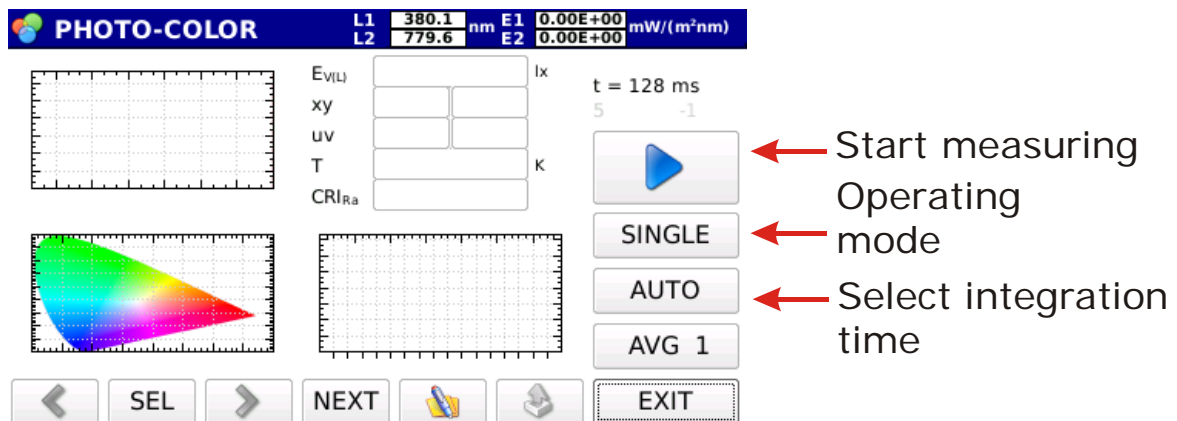

Figure 3.10: Photo\_color measuring mode startup screen
illuminance (Lux), trichromatic coordinates CIE 1931 (x, y) and CIE 1976 (u', v'), the Correlated Color Temperature CCT (K) and the Color Rendering Index CRI (the general index and the index of each of the 14 reference samples). By pressing the Photo-color button you access the screen in figure 3.10